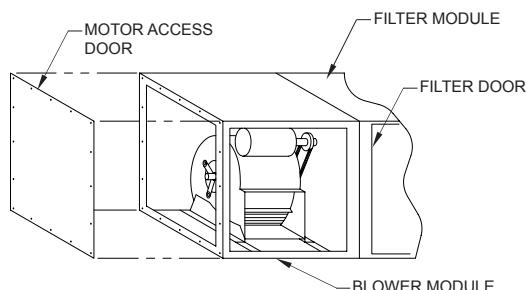

FIG. 3
- Rotate motor/blower module 90° as shown in **FIG. 3**.